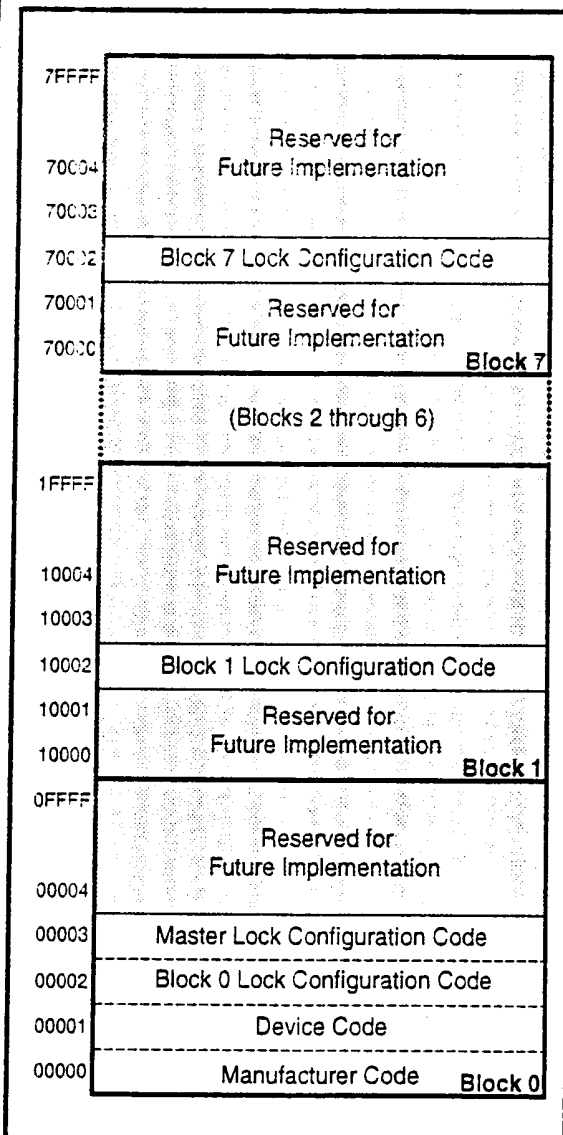

Figure 4. Device Identifier Code Memory Map
The read identifier codes operation outputs the manufacturer code, device code, block lock configuration codes for each block, and the master lock configuration code (see Figure 4). Using the manufacturer and device codes, the system CPU can automatically match the device with its proper algorithms. The block lock and master lock configuration codes identify locked and unlocked blocks and master lock-bit setting.
| Read Identifier Codes | | V _{IH} or V _{CH} | V _{IL} | V _{IL} | V _{IH} | See Figure 4 | X | Note 5 | V _{OH} |
IA=Identifier Code Address: see Figure 4.
The identifier code operation is initiated by writing the Read Identifier Codes command. Following the command write, read cycles from addresses shown in Figure 4 retrieve the manufacturer, device, block lock configuration and master lock configuration codes (see Table 5 for identifier code values). To terminate the operation, write another valid command. Like the Read Array command, the Read Identifier Codes command functions independently of the V_{PP} voltage and RP# can be V_{IH} or V_{HH} . Following the Read Identifier Codes command, the following information can be read:
1. X selects the specific block lock configuration code to be read. See Figure 4 for the device identifier code memory map.